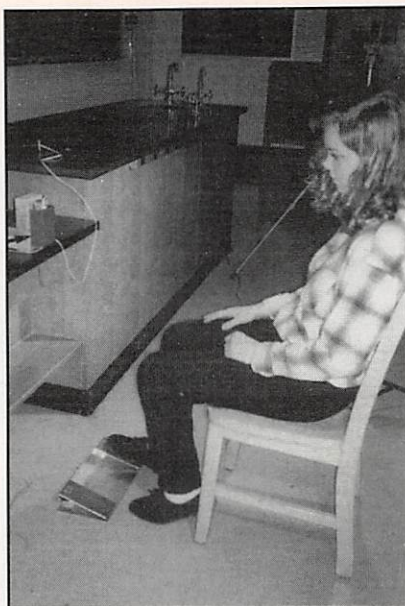
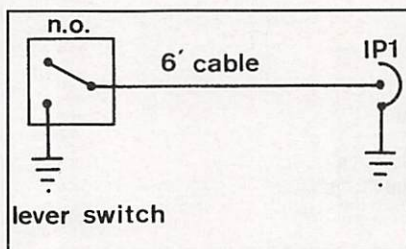
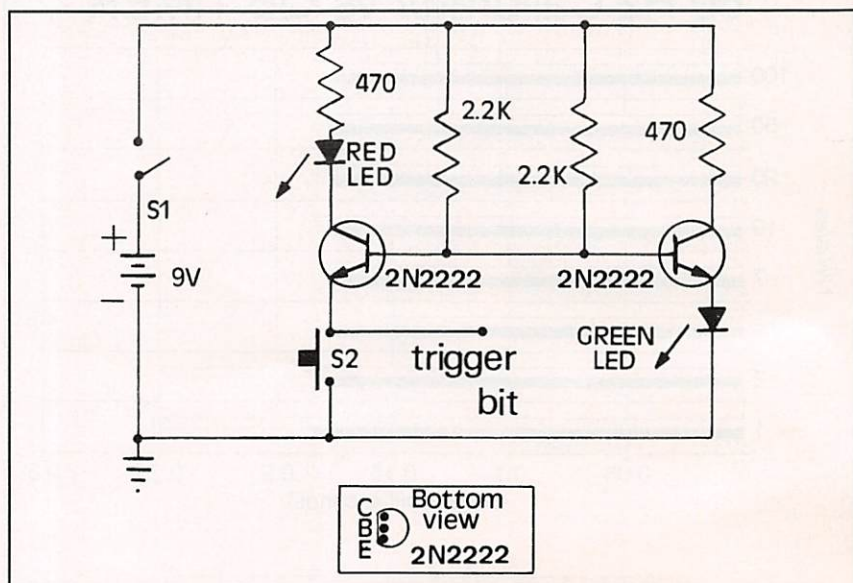

Fig. 7. Lever switches under simulated gas and brake pedals let PC measure a driver's reaction time to changing traffic light (arrow).
Fig. 8. Circuit details for connecting IP1 to normally-open terminal of a lever switch.
Fig. 9. Circuit details for the simulated traffic light. Note that switch S2 is at the end of a 6-foot cable.
• **Driver Reaction-Time Apparatus** (Fig. 7). A program uses *IP1* and *IP2* to monitor the normally-open contacts on lever switches (Fig. 8) located under the brake and gas pedals. *IP3* connects to a simulated traffic light, as shown in Fig. 9. In this circuit, when *S1* is closed, the green LED lights and the trigger bit connected to *IP3* is +2.5 volts. Closing pushbutton switch *S2* turns on the red LED and grounds the trigger bit.